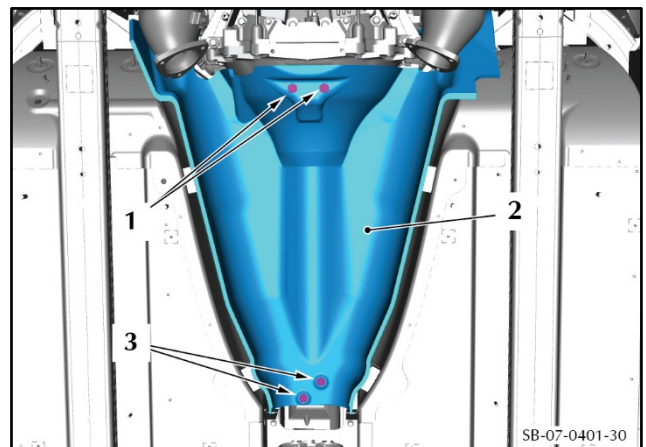

Figure 41
- 81. Put the heat shield (2) into position (refer to Figure 41).
- 82. Install the two screws (3) that attach the rear of the heat shield (2) to the torque tube. Torque the two screws to 9 Nm.
- 83. Install the two screws (1) that attach the front of the heat shield (2) to the torque tube. Torque the two screws to 9 Nm.